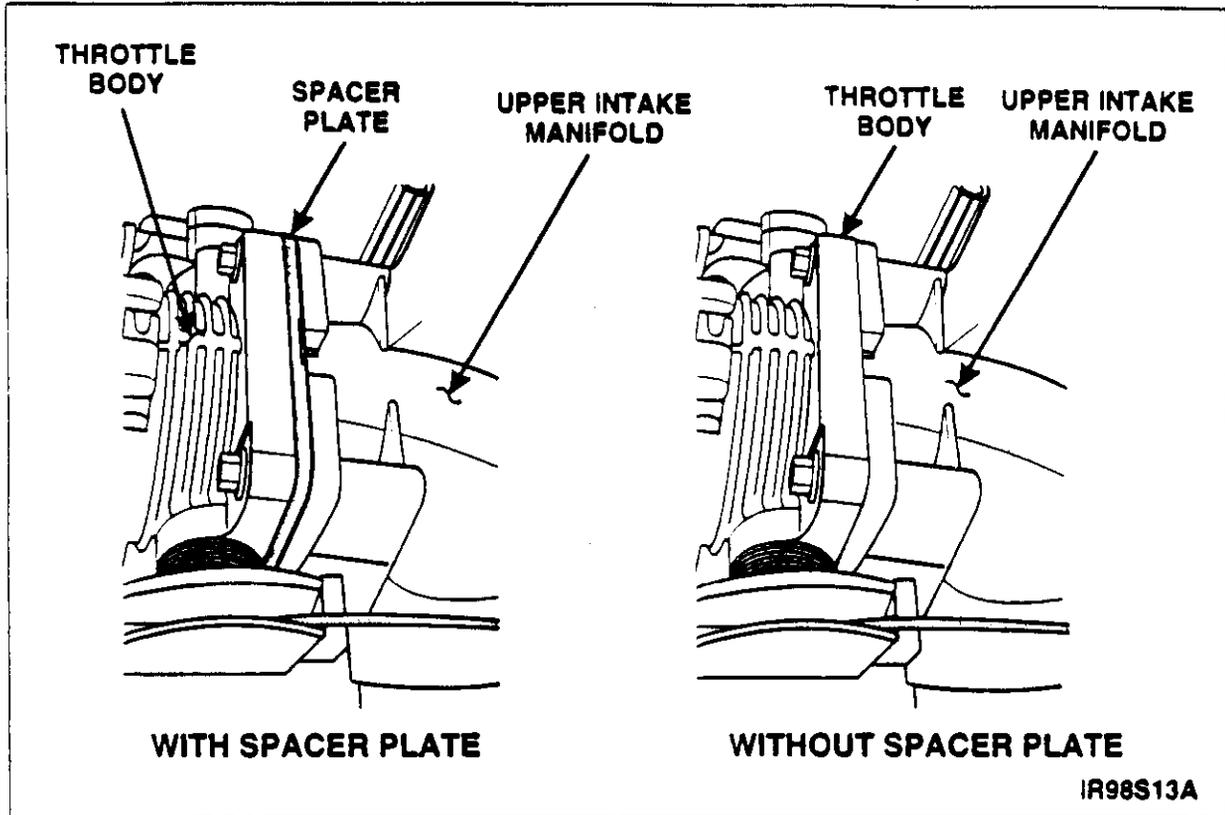

FIGURE 5
18. Check the throttle body-to-upper intake manifold mounting flange for Air Flow Straightener Spacer Plate. Refer to Figure 5. If the spacer plate is present, proceed to next numbered step. If the spacer plate is not present, follow bulleted steps below: